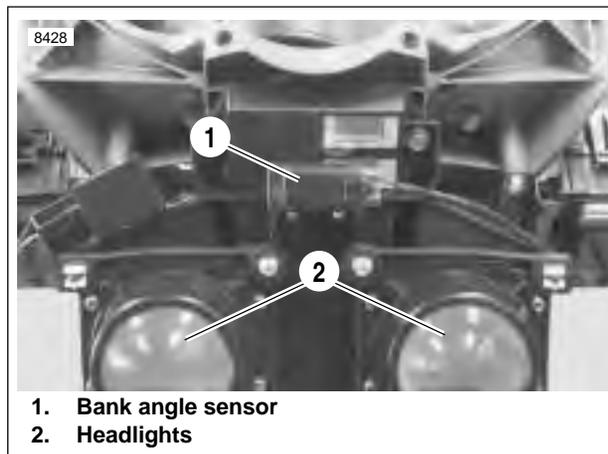

Figure 4-45. Bank Angle Sensor
3. See Figure 4-45. Unplug bank angle sensor connector [134].
3. See Figure 4-45. Install bank angle sensor connector [134].